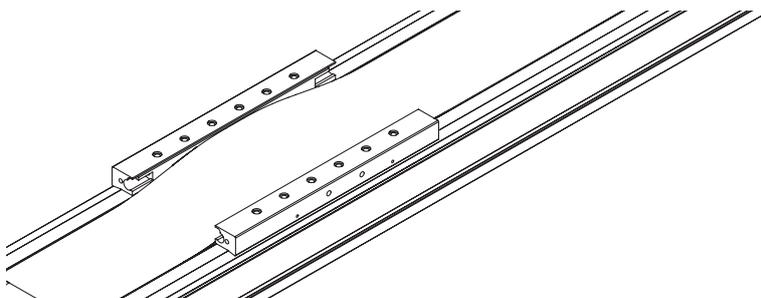

Fig. 7.15 Guiding the cover strip
- ▶ Lay the cover strip on the magnetic strip of the axis base profile and guide it over the carriage profile (see Fig. 7.15).